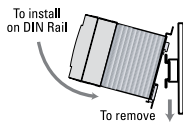

fig.1 Mounting on DIN Rail
- Using reasonable force, push CMR in the direction of the arrow shown in fig.1.